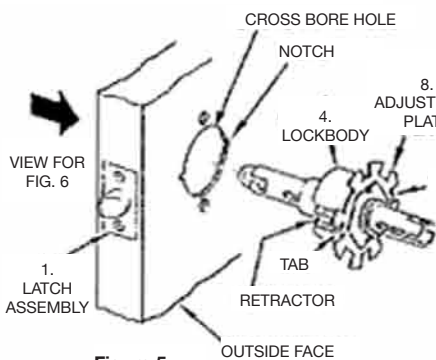

Figure 5
- Position Lockbody (4) (as shown in fig. 5) with retractor facing the Latch Assembly (1), and the tabs of the Adjustment Plate (6) lined up with the notches on the door.
- Slide the Lockbody (4) into the cross-bore hole from the outside position.